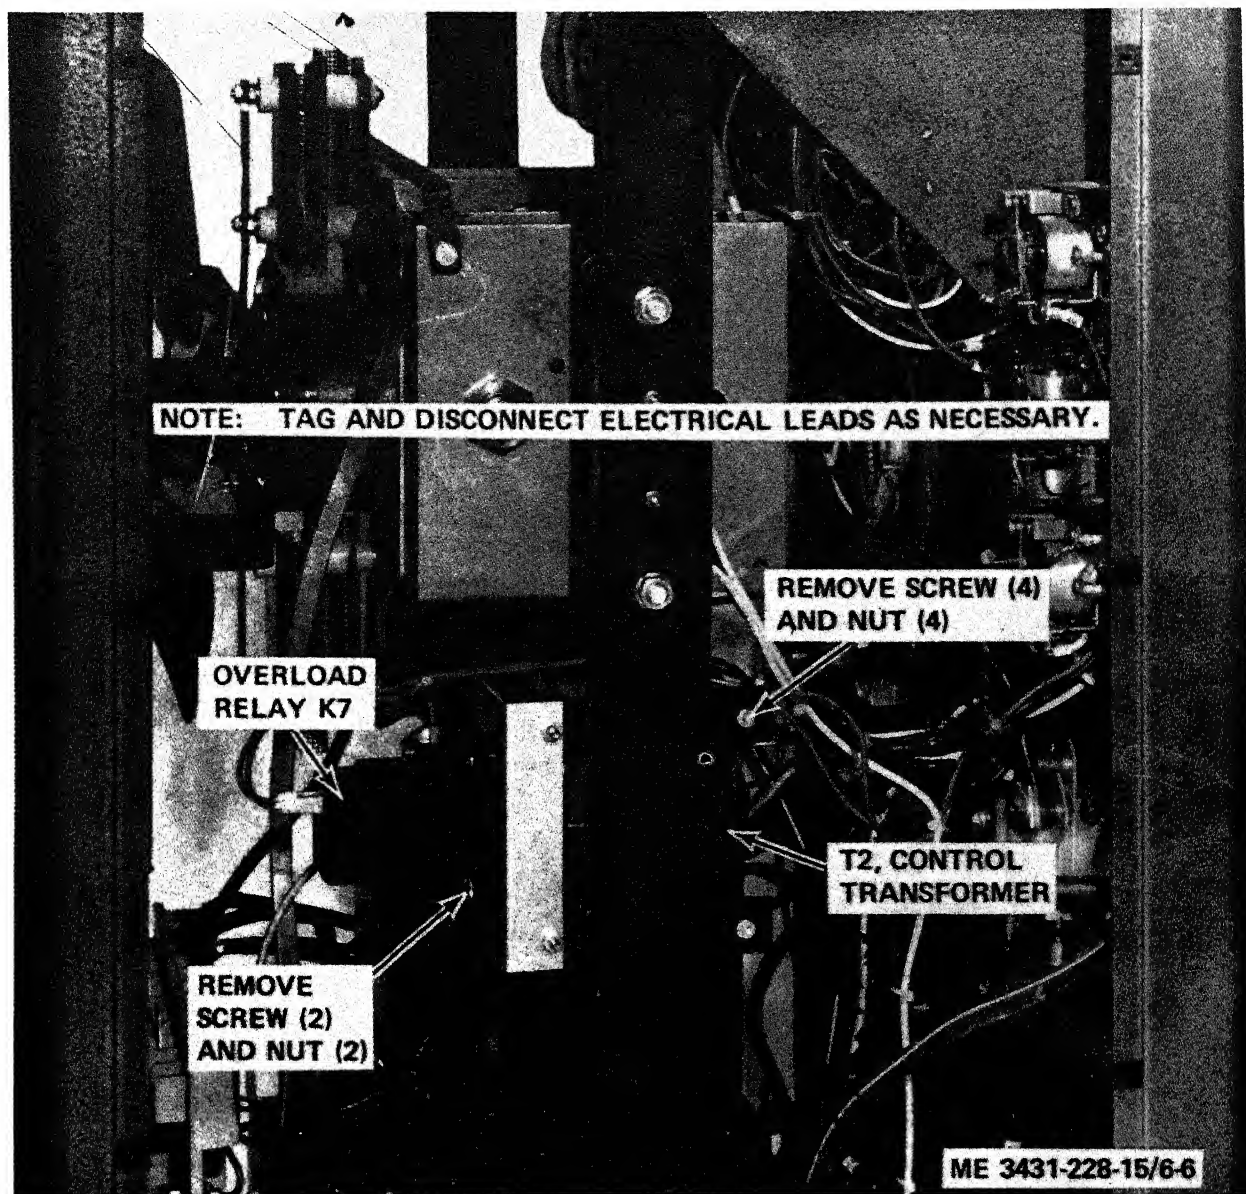

Figure 6-6. Overload relay K7 and control transformer T2, removal and installation.
- (1) Disconnect ac power from the welding machine.
- (2) Remove the top and housing (para 3-20).
- (3) Refer to figure 6-6 and remove overload relay K7.
- (4) Refer to figure 6-6 and remove control transformer T2.
- (1) Refer to figure 6-6 and install the control transformer.
- (2) Refer to figure 6-6 and install the overload relay.
- (3) Install the top and housing (para 3-20).